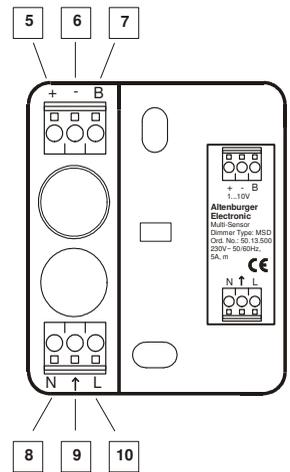

figure3
Remote adjustments: - between terminal (- 6) and terminal B (7) on figure 3 a customary switch can be connected and installed inside the room. If this switch is activated the motion detection is switched OFF. The MSD operates just as constant light control. This can be appropriate if only from time to time a room is occupied by just a few persons.
Remote adjustments: Between terminal (- 6) and terminal B (7) on figure 3 a customary pushbutton can be connected. It allows the following operations: